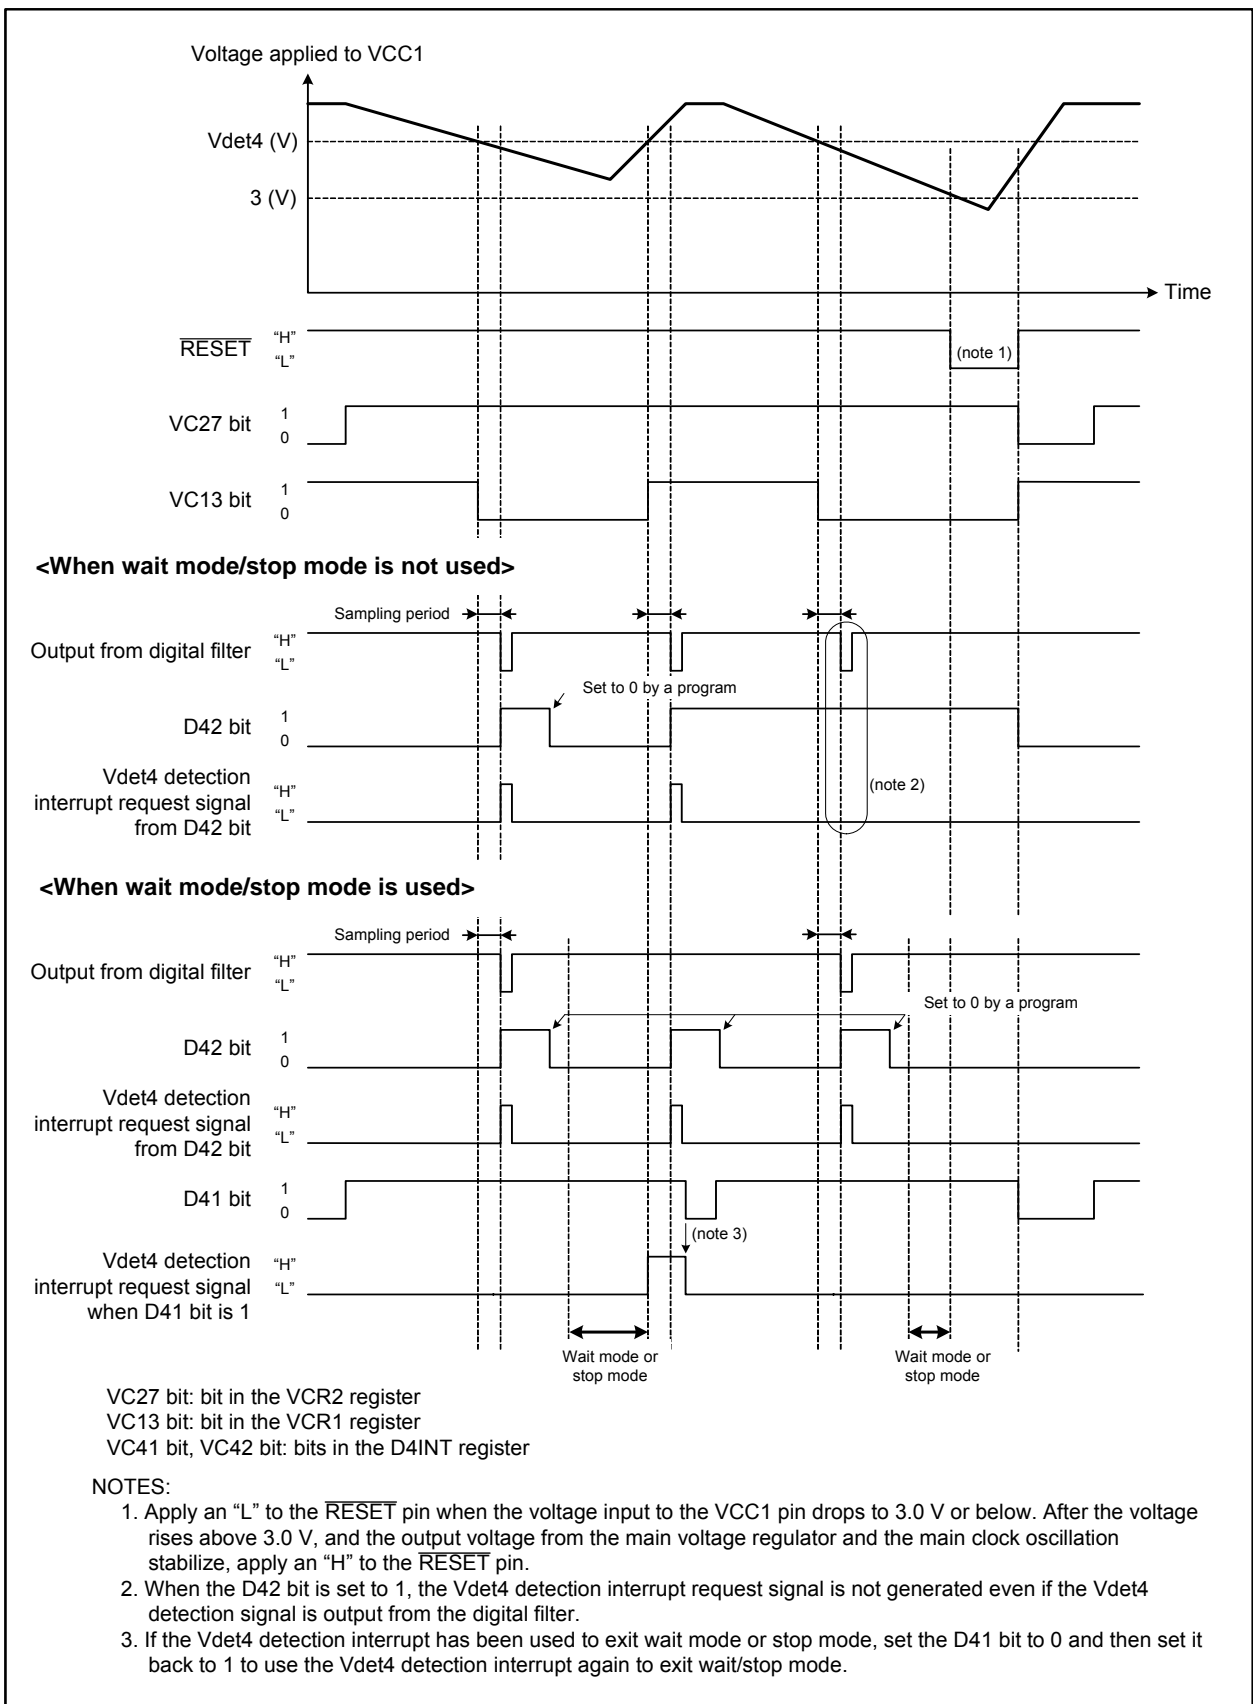

Figure 6.6 Vdet4 Detection Function Operation Example
Table 6.1 shows conditions to generate Vdet4 detection interrupt request. Figure 6.6 shows a Vdet4 detection function operation example.
- An interrupt request is generated when the sampling period elapses after the value of the VC13 bit is changed. See **Figure 6.6 Vdet4 Detection Function Operation Example** for details.